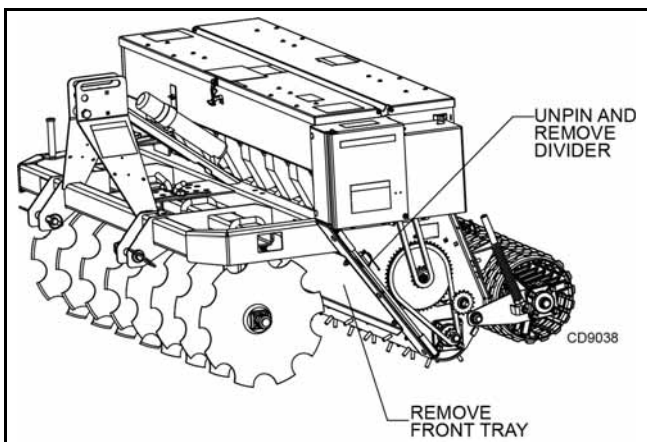

Figure 30. Removal of Components to Install Frame Stiffener (lower shield not shown)
8. Remove Primary seed box divider and front tray, Figure 30. Ensure front tool is in a forward position to avoid interference during installation. Refer to page 11 for front tool adjustment.
8. Remove Primary seed box divider and front tray. See Figure 30. Ensure front tool is in a forward position to avoid interference during installation. Refer to page 11 for front tool adjustment.